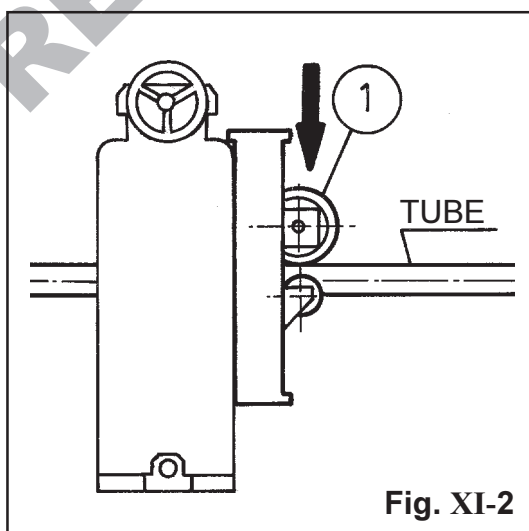

Fig. XI-2
- E) Make sure the reading roll (pos. 1, Fig. XI-2) of the tube speed sensor rests correctly on the tube or profile section.